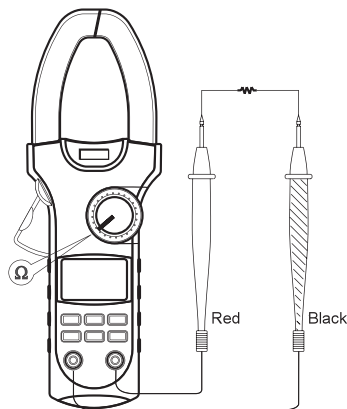

Figure 4
**B. Resistance Measurement**(see Figure 4)**⚠ Warning**